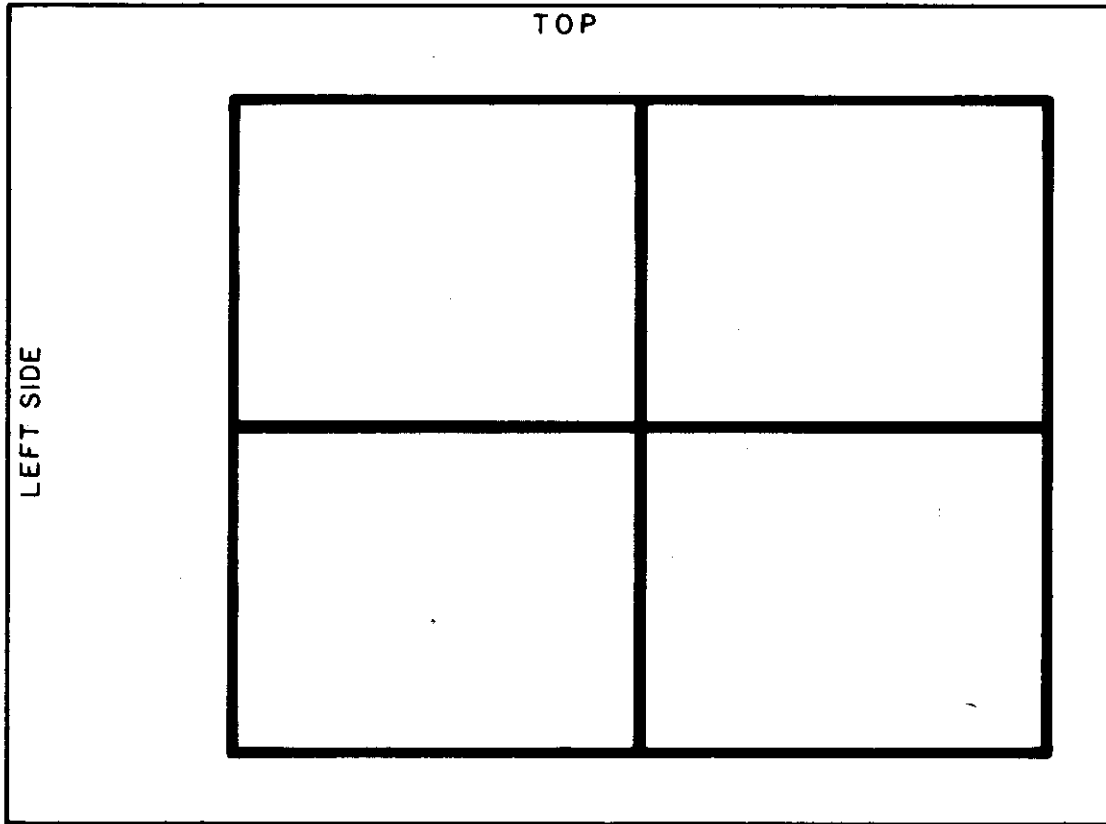

Figure 4-3 Overlay For CRT Calibration.
2. Remove Figure 4-3 from manual. Cut on outside of line as indicated. Carefully center the cut line within the white viewing area of the CRT and, using transparent tape, tape overlay onto face of the CRT. The dimensions of the cut line are the dimensions of the CRT bezel when the CRT is mounted in the set. The cut edge of the overlay will be approximately the same as the white part of the CRT.